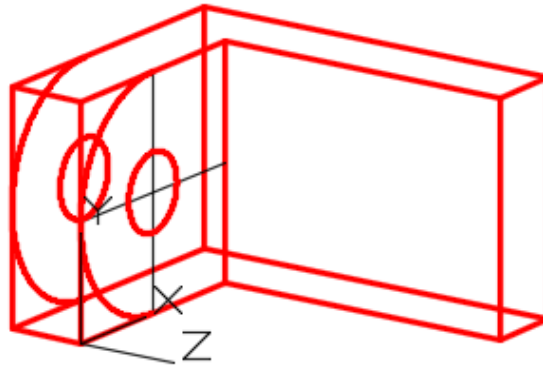

Figure Step 11
Step 11 Copy the arc and the circle in the negative Z direction. (Figure Step 11)